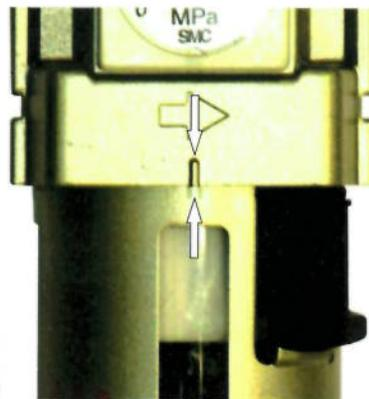

fig.22
- Turn the filter bowl for about a 1/4 turn until the two lines embossed on the bowl line up with the line mark on the main body of the FR-, keeping the black plastic lever pulled downwards. (fig.22).